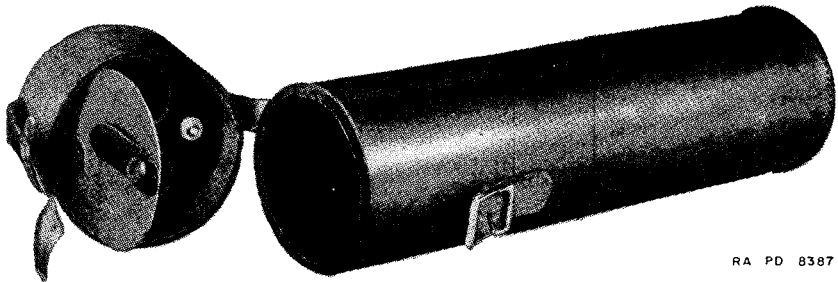

FIGURE 13.—Observation telescope M4—telescope carrying case.
(3) The cylindrical leather carrying case (fig. 13) protects the telescope when it is not in use. A canvas carrying case, reinforced with leather, contains one pocket for the telescope and another for the tripod.